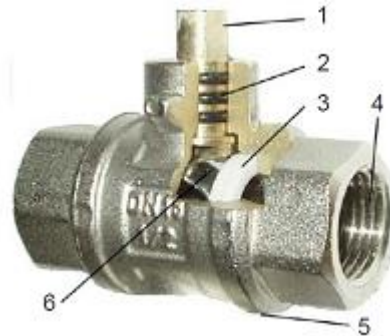

Figure 2. Ball valve with EPDM sealing and Teflon® as sliding disc
Compare with the figure 2 below. The sliding disc (3) has primary the function of a lining for sliding the ball. It has no actual sealing purpose. The O-rings (2) have the purpose to seal.
Consult the appropriate valve supplier about the choice of valves and specify the type of Heat Transfer Fluid and operational temperatures. Valves must be constructed in materials according to the list of materials, see Table 1a, 1b, 3a and 3b. Remember that most types of valves such as balancing valves, control valves and solenoid valves may contain fibre packings; these should be changed to rubber/EPDM seals. PTFE is normally used as seat material for the sliding disk and here serves the purpose well, as Temper is chemically compatible with PTFE. See Figure 2 above.